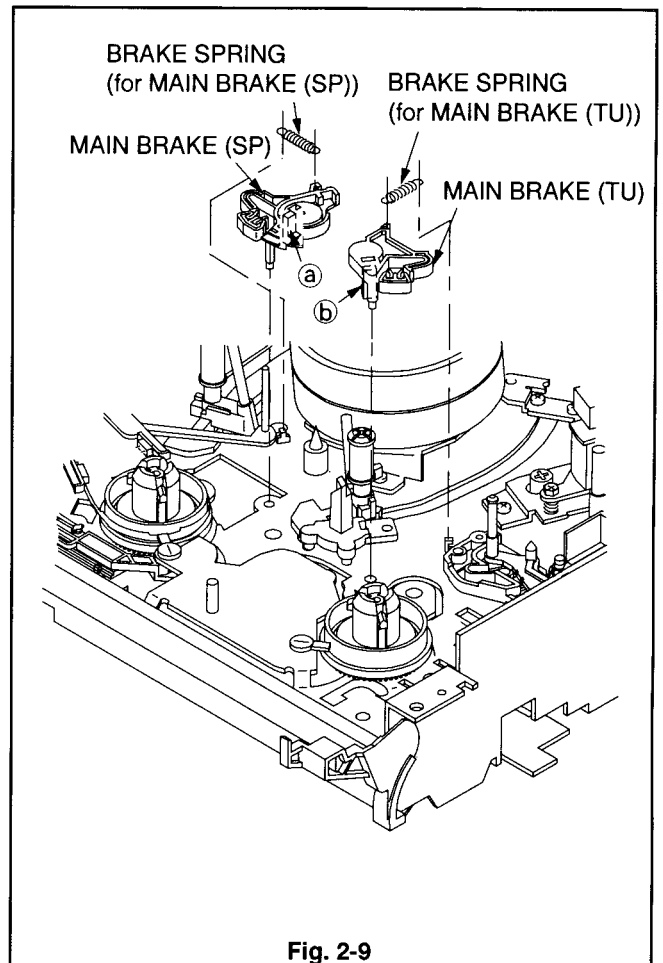

Fig. 2-9
- 1 Remove the BRAKE SPRING (for MAIN BRAKE (SP)) shown in Fig. 2-9.
- 2 Unfasten the catch (a) of the MAIN BRAKE (SP) shown in Fig. 2-9 with tweezers, etc. to remove the MAIN BRAKE (SP).
- 3 Remove the BRAKE SPRING (for MAIN BRAKE (TU)) shown in Fig. 2-9.
- 4 Unfasten the catch (b) of the MAIN BRAKE (TU) shown in Fig. 2-9 to remove the MAIN BRAKE (TU).
- 1 Install the MAIN BRAKE (TU) shown in Fig. 2-9.
- 2 Install the BRAKE SPRING (for MAIN BRAKE (TU)) shown in Fig. 2-9.
- 3 Install the MAIN BRAKE (SP) shown in Fig. 2-9.
- 4 Install the BRAKE SPRING (for MAIN BRAKE (SP)) shown in Fig. 2-9.